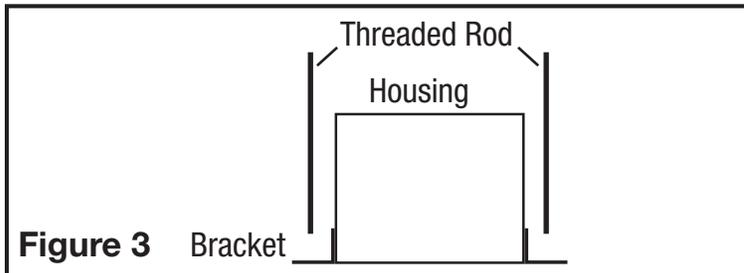

Figure 3
- 2c. **Hanging Bar Mounting:** Lift unit up onto the threaded rods and secure in place using appropriate hardware (not included) (Figure 3).